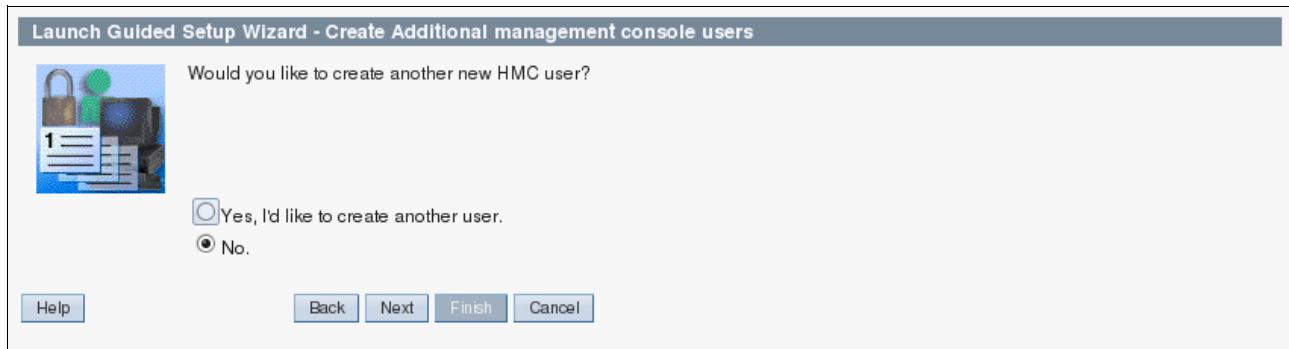

Figure 3-85 Create an extra user
14. Although you can create additional HMC users in the next panel (Figure 3-85), do not create them now. Creating additional users can be done later. Click **Finish**.